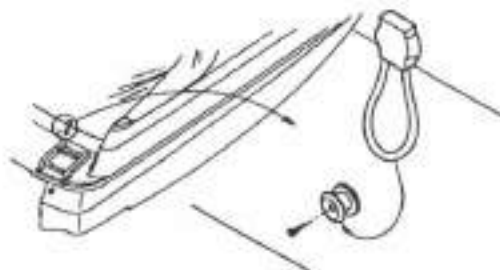

Figure L2: Shock Cords
- b. If the canvas has shock cords along the aft edge, attach to knobs as shown in Figure L2.